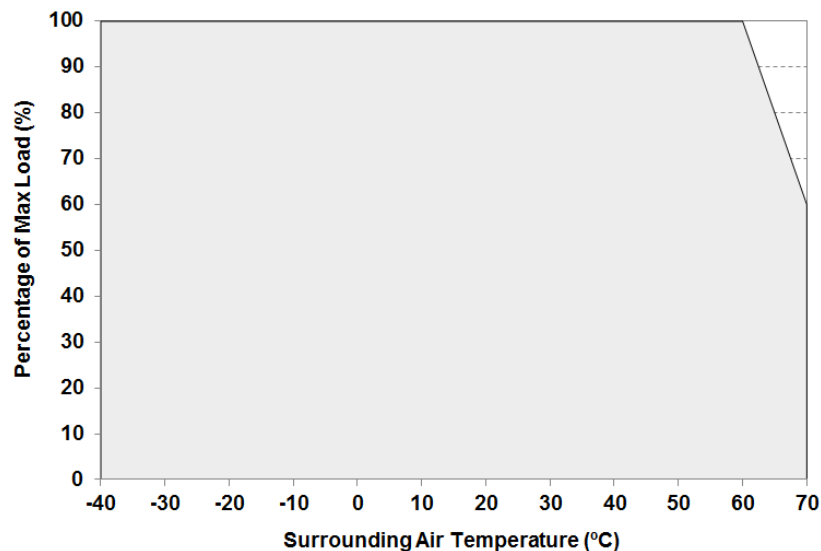

Fig. 1 De-rating for All Mounting Orientation (All Models)
* For power de-rating from 60°C to 70°C, see power de-rating at Fig.1 on page 10.
1. Power supply components may degrade, or be damaged, when the power supply is continuously used outside the shaded region, refer to the graph shown in Fig. 1.
- If the device is continuously operating outside the shaded region shown in Fig. 1. The device may be damaged or degraded.